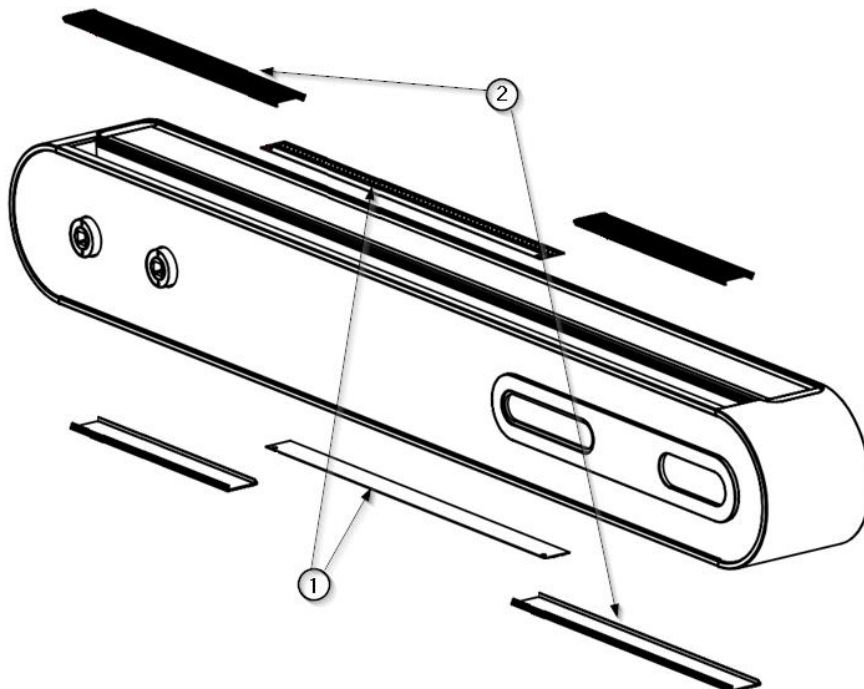

Fig. 1 Removal of diffusers and top and bottom covers
- Using a flat-nosed tool, remove the light diffusers ① as shown in figure 1, taking care not to scratch the paintwork on the top and bottom covers ②.
- Using a flat-nosed tool, remove the top and bottom covers ② as shown in figure 1 taking care not to scratch other areas of the enclosure and leave them in a safe place.
- Place the upper and lower covers ② back on the device by pushing them into position and pressing them together until the clipping sound is heard.